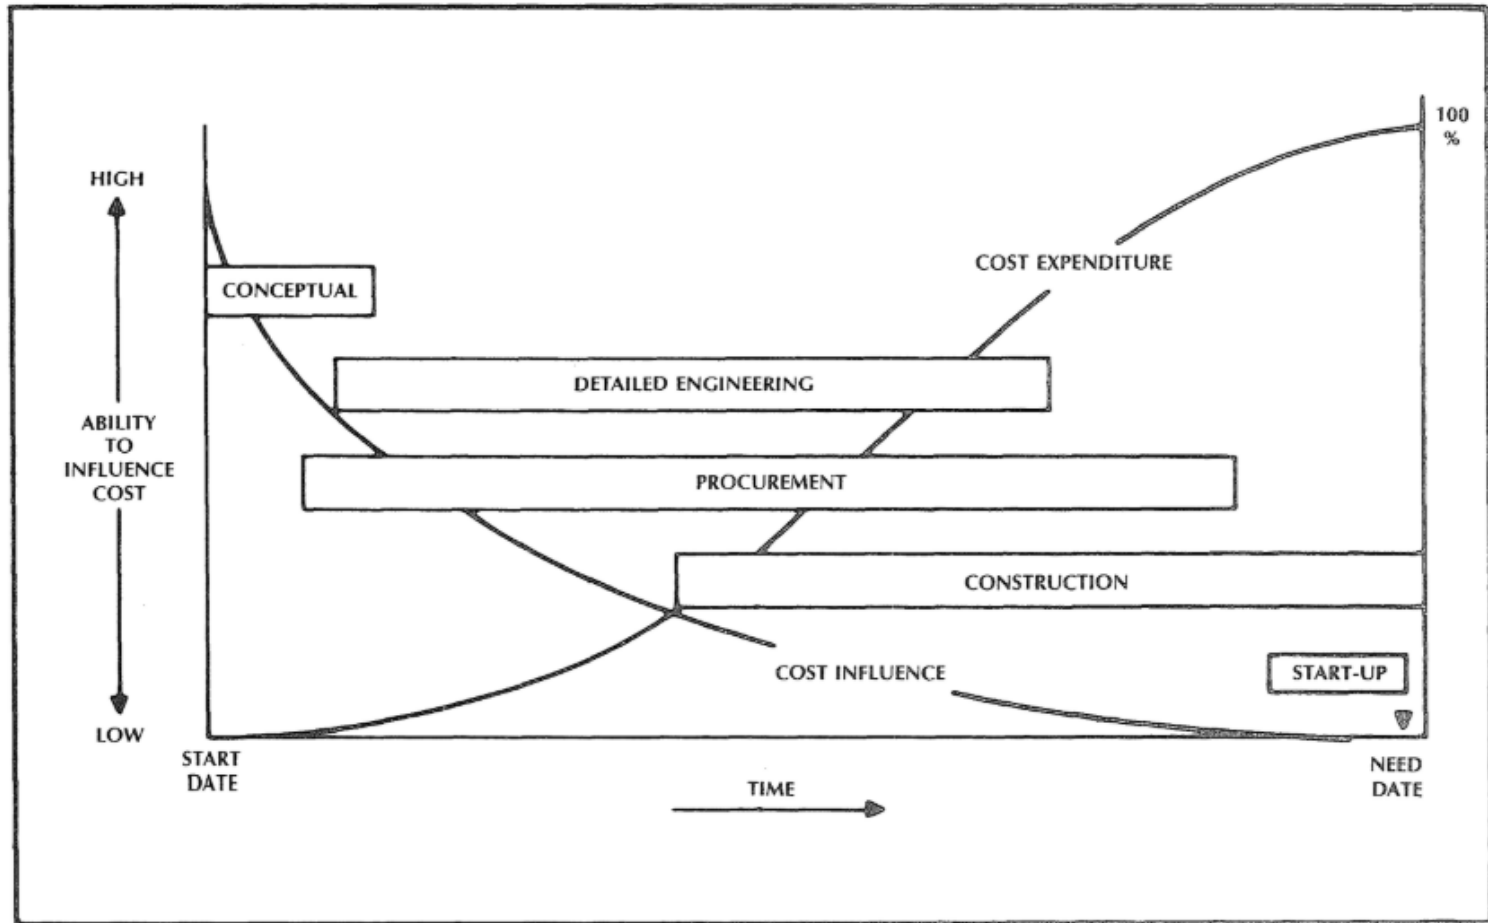

Figure 1. Ability To Influence Final Cost Over Project Life
- ☐ **Figure 1** is a representation of this project format.
- ❑ As illustrated in Figure 1, the **ability to control final cost** is greatest in the conceptual engineering phase and rapidly diminishes thereafter.